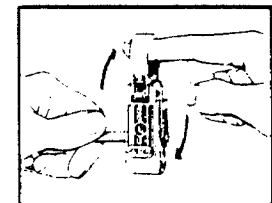

Figure 7
- F. Rotate tool around coax about 5 times (Fig. 7). Push slide forward to next position in sequence. Rotate tool again. Then push slide forward to final position and rotate tool final 5 times.